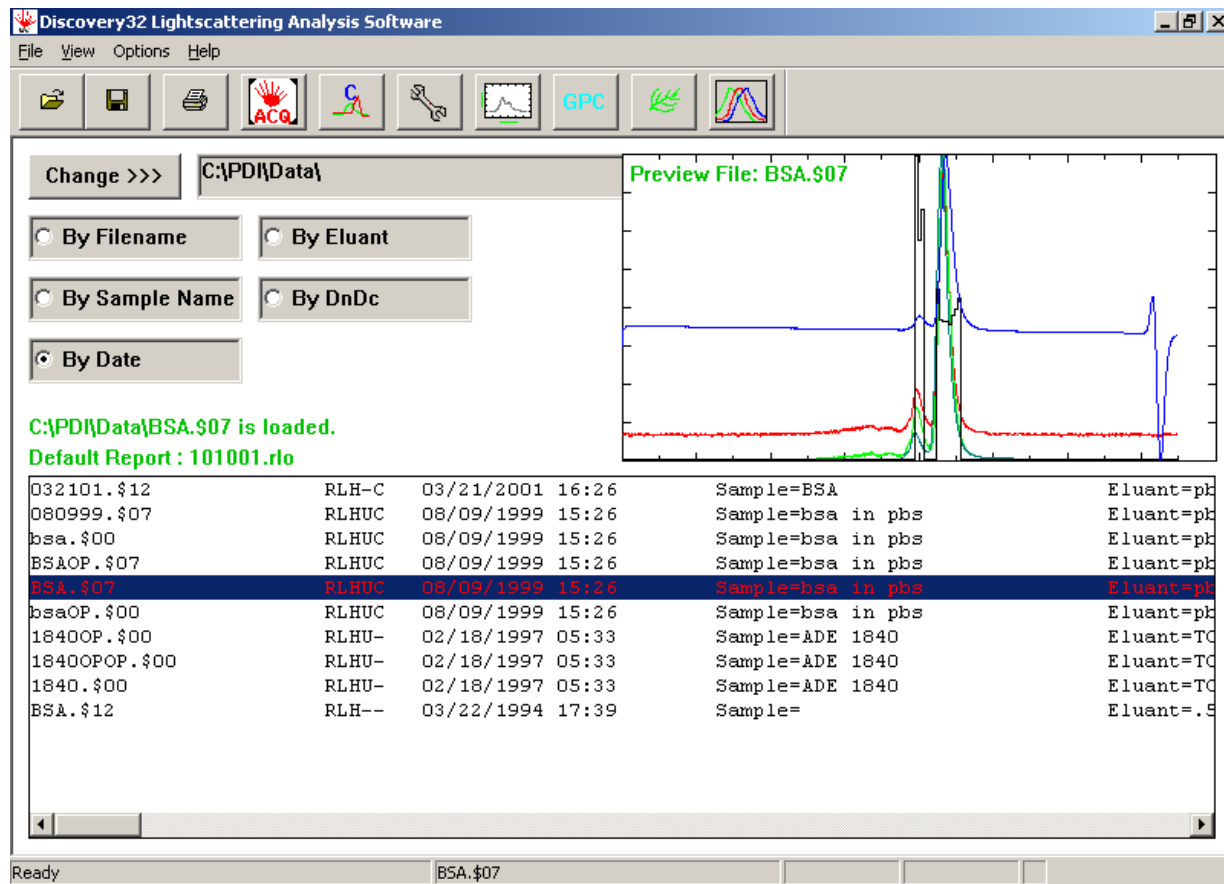

Figure 5-1: The Main Window
This chapter describes the Main window of Discovery32 (Figure 5-1), which is used to coordinate all activities of the application program, access a variety of tools to process and present data. A discussion of the use of these commands in a typical scenario for protein analysis is presented in Chapter 6, and a typical scenario for synthetic polymer analysis is presented in Chapter 7.
Set Default Report Layout presents an *Open* dialog box to allow the selection of the desired report layout. Report layouts are of the form *****.rlo, and are normally stored in the same directory as the data. When you open a layout, the name of the selected layout is indicated directly below the loaded file name (see Figure 5-1).
- Status Bar - presents information about the present state of the program on the bottom line of the display (see Figure 5-1).